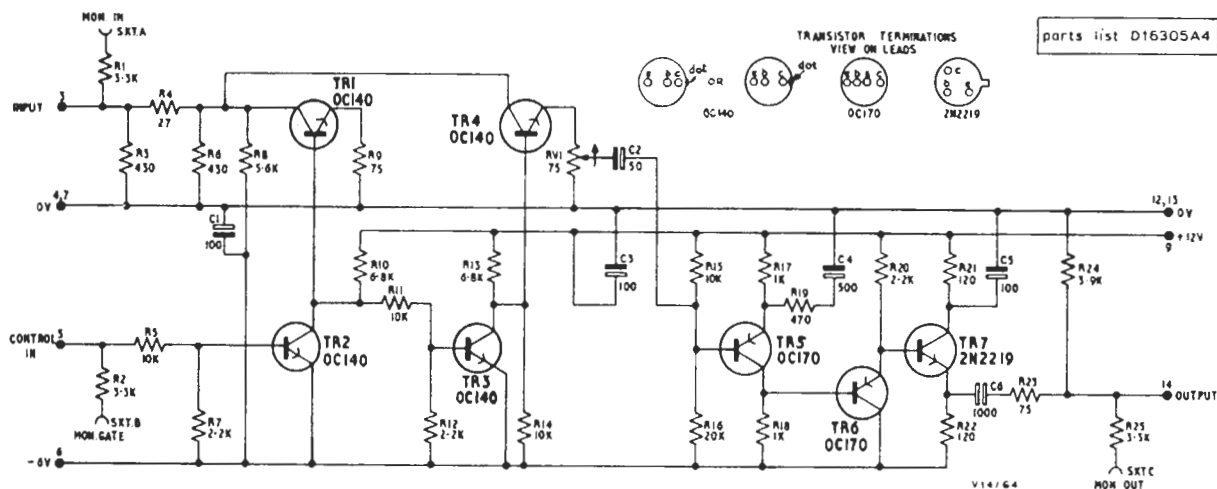

Fig. 11.1 Circuit of the UN3/511
In the circuit of the UN3/511, given in Fig. 11.1, the video input signal is fed to the collectors of the two switching transistors TR1 and TR4 via a 3-dB attenuator pad. The circuit of transistors TR1 to TR4 form an electronic one-pole two-way switch.
1. Connect the power supplies as shown in Fig. 11.1. Connect the input of the oscilloscope, terminated in 75 ohms, to pin 13. Connect pin 5 to pin 7. Connect the output of the GE4/504B to pin 4.